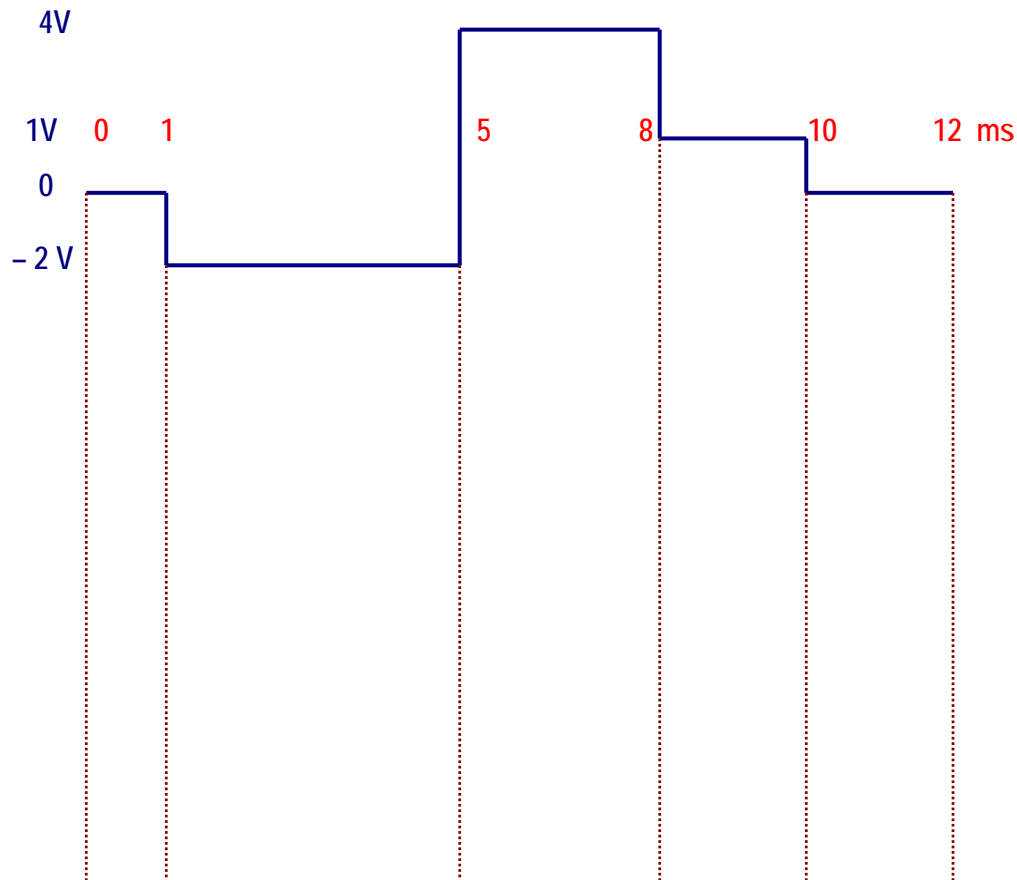

Figure 8-19. Input waveform for question 4.
4. The input waveform illustrated in Figure 8-19 is applied to an inverting differentiator with $RC = 2$ ms and a supply of ± 15 V.
- a. Draw the expected output waveform below the input signal in Figure 8-19 indicating its amplitude.